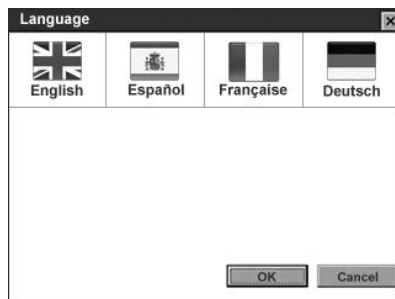

Figure 3.3
- 2) Use the **UP/DOWN** scroll button to select the desired language and press the **OK** button to save your selection and return to previous screen. (Figure 3.3)